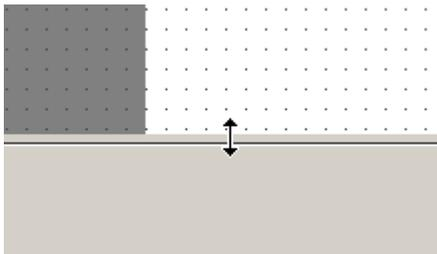

Figure 8. Windows separator
**Tip:** Use the windows separator to adjust the different areas so that you can see the whole stage (Figure 8).